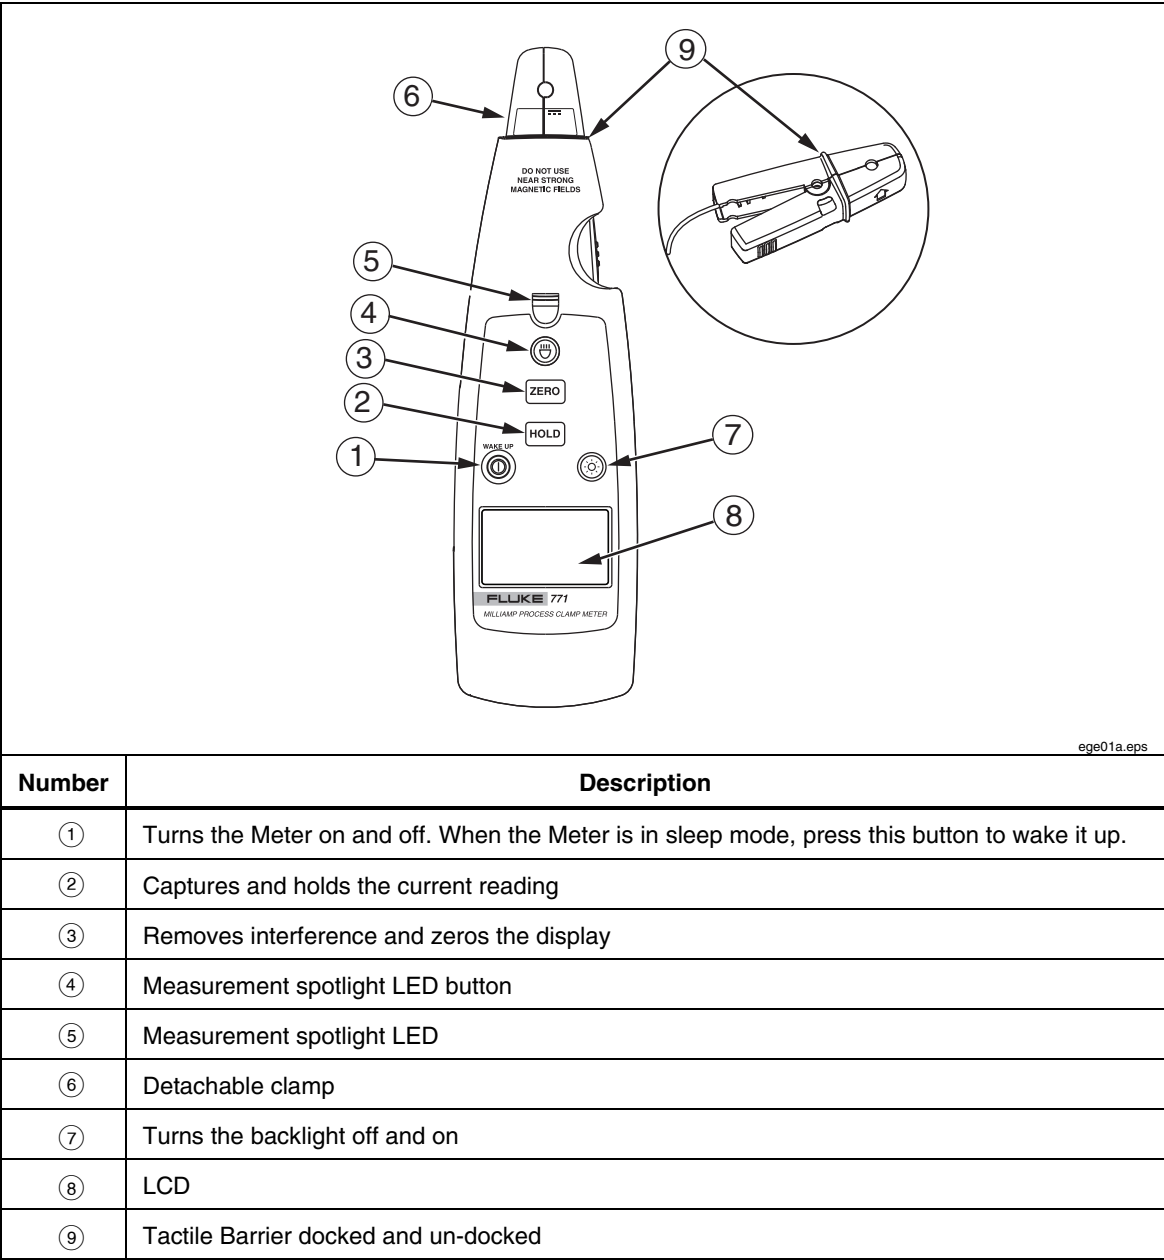

Figure 1. The 771 Milliamp Process Clamp Meter
- When measuring, keep fingers behind the Tactile Barrier. See Figure 1.
Figure 1 shows the Meter functions and features.